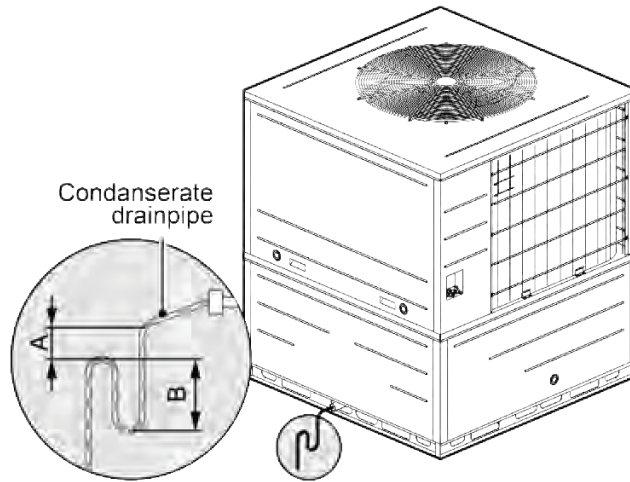

Fig.11
- (1) Condensate drain side is pitched lower than the opposite side. (see Fig. 11)
- (2) When shipped out from factory, both the condensate outlets are blocked by rubber plug. So before installation, please take the rubber plug out.
- (3) Condensate removal is performed by attaching a PVC pipe to the drain pan and terminated in accordance with local or state Plumbing/HVAC codes.
- (4) The condensate pipe shall be installed with an inclining angel of 5~10°, so as to facilitate the drainage of condensate.
- (5) As the inside of the unit is in the negative pressure status, it is required to set up a backwater elbow. The requirements is:  $A=B \geq P/10+20(\text{mm})$
- (6) P is the absolute pressure inside the unit. The unit of the pressure is Pa.
- (7) After the electrical installation is completed, carry out the testing of the drainage system.
- (8) It is not allowed to connect the condensate drain pipe into waste pipe or other pipelines which are likely to produce corrosive or peculiar smell to prevent the smell from entering indoors or corrupt the unit.
- (9) It is not allowed to connect the condensate drain pipe into rain pipe to prevent rain water from pouring in and cause property loss or personal injury.
- (10) Condensate drain pipe should be connected into special drain system for air conditioner.
- (11) Drain hose is in negative pressure state:  $A = B \geq P/10+13/16 "$  (20mm).